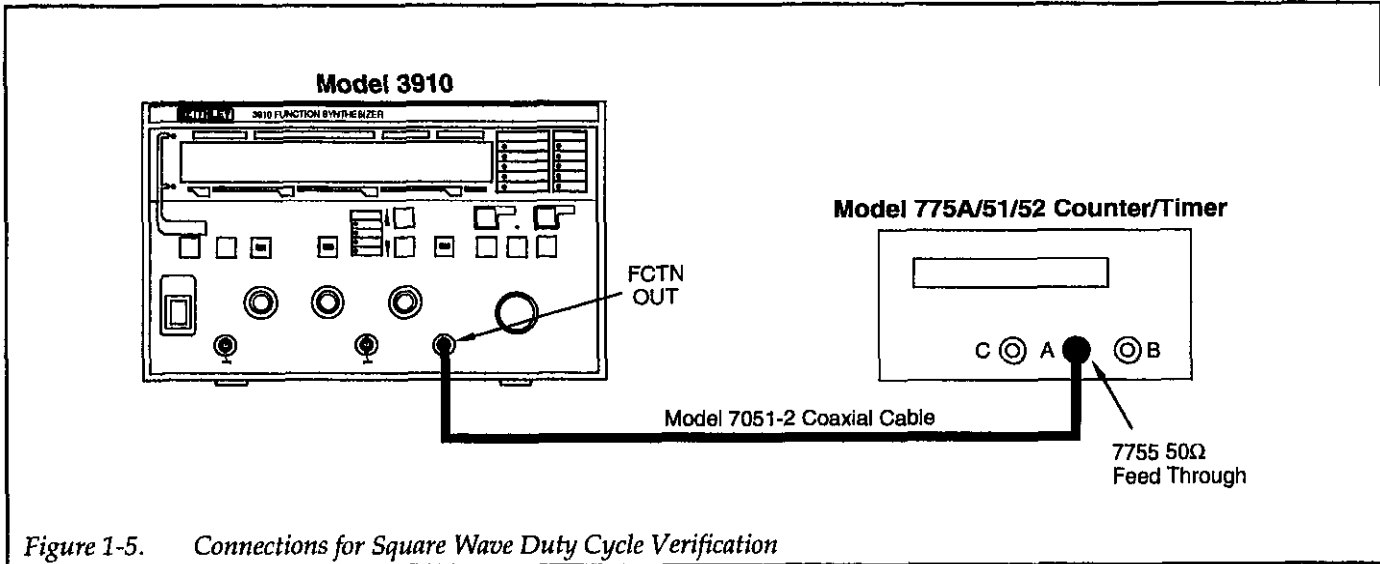

Figure 1-5. Connections for Square Wave Duty Cycle Verification
1. Connect the Model 3910 FCTN OUT jack to input A of the counter/timer as shown in Figure 1-5.